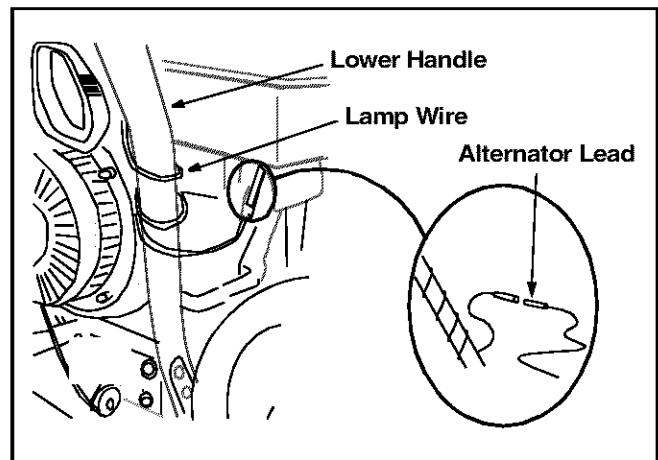

Figure 10
- If so equipped, wrap the wire from the lamp down the right handle until the wire can be plugged into the alternator lead wire located under the fuel tank. See Figure 10. Lamp wire must not interfere with any controls or cables.